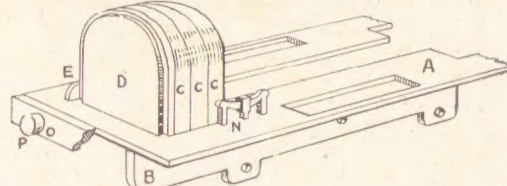

Fig. 2—Front end of footplate
funnel is, will be made up of four pieces, as (C) on the pattern sheet, three being cut from $\frac{1}{4}$ in. wood, and one from $\frac{1}{8}$ in. wood. They will be glued together and cleaned round with glasspaper. The overlay (D) will be cut according to the dotted line on (C), pattern sheet, and this will be of $\frac{1}{4}$ in. stuff. See Fig. 2 for completion of this part. Cut two of piece (E) from $\frac{1}{4}$ in. wood and glue to pieces (C).
A buffer plate is next made from $\frac{3}{8}$ in. wood, size $4\frac{1}{2}$ ins. by $\frac{1}{2}$ in., see Fig. 2 for its position. To this plate are glued the washers (P), (Y), (Z) to form the buffers, piece (Z) being rounded to form the shaped face. Some careful fretcutting and handling will be needed in our next item—the wheels.